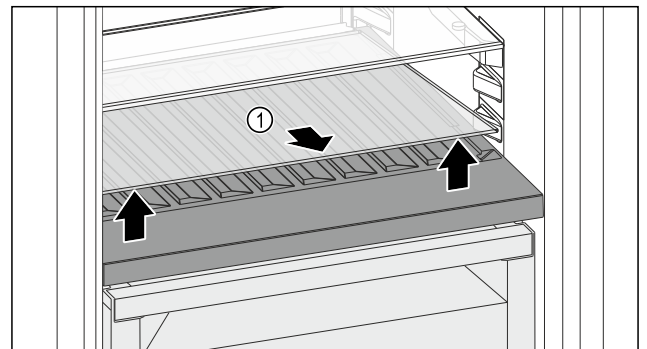

Fig. 134
- Lift the glass shelf *Fig. 134 (1)* at the front and remove.
- Store the glass shelf *Fig. 134 (1)* in a safe place outside the appliance.